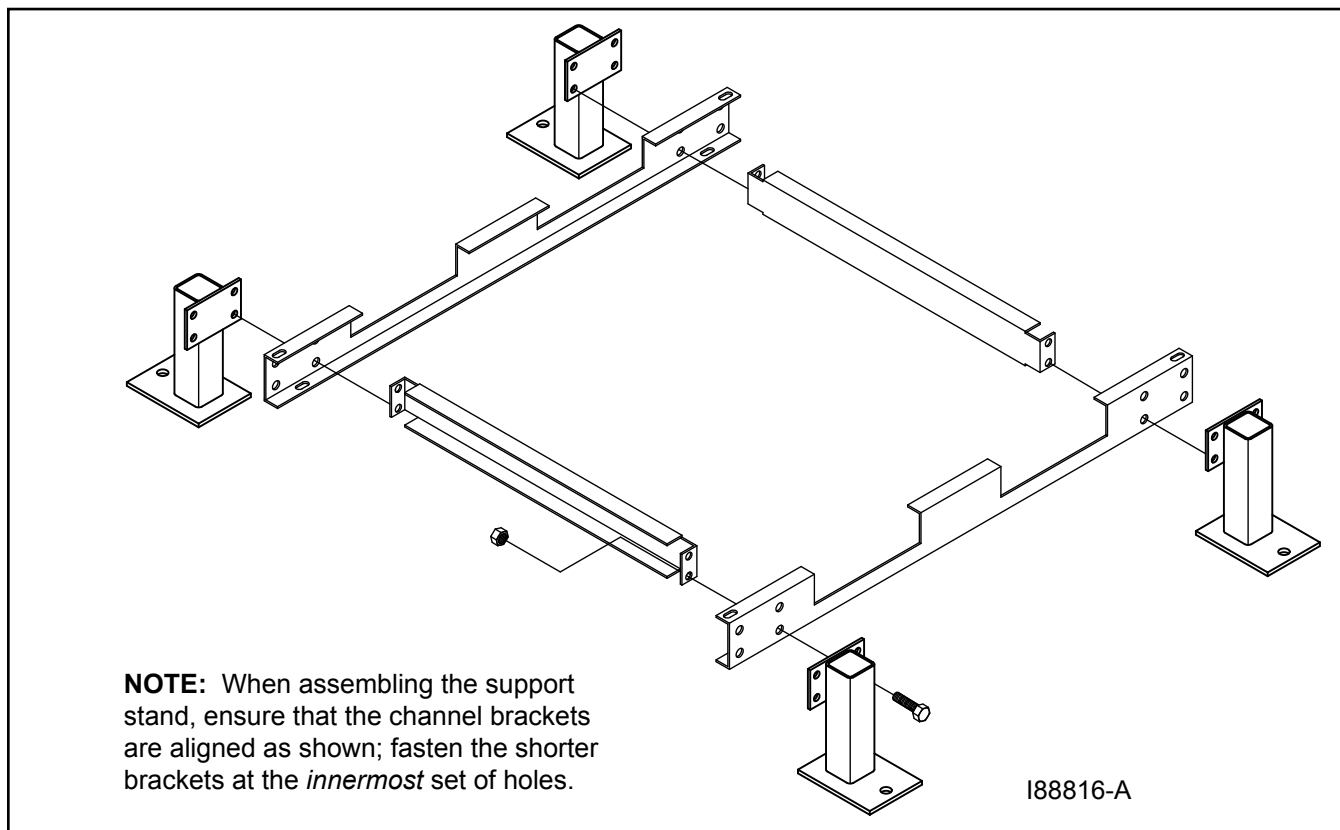

Figure 3B - Assembling the Support Stand
2. Assemble the CTB support stand as shown in Figure 3B, using the hardware provided.
NOTE: If the support stand has not been assembled, refer to Figure 3B.